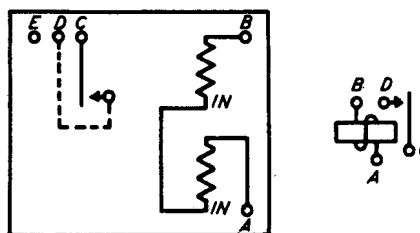

Fig. 23 - Winding and Spring Terminal Arrangement as Viewed From the Front (contact side) — 21-Type Telegraph Relay
2.37 Facing the front or contact side of the relay the terminals are numbered as shown in Fig. 23.